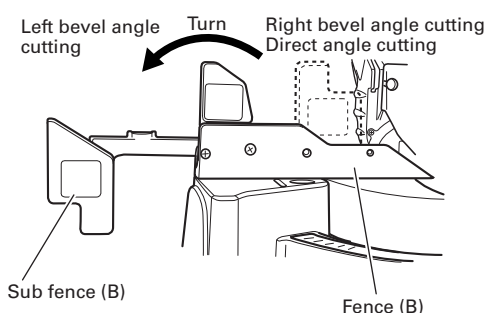

Fig. 12
This power tool is equipped with a sub fence (B). In the case of direct angle cutting and right bevel angle cutting, use the sub fence (B). Then, you can realize stable cutting of the material with a wide back face. In the case of left bevel cutting, raise the sub fence (B) up as illustrated in Fig.12 and turn it counterclockwise.